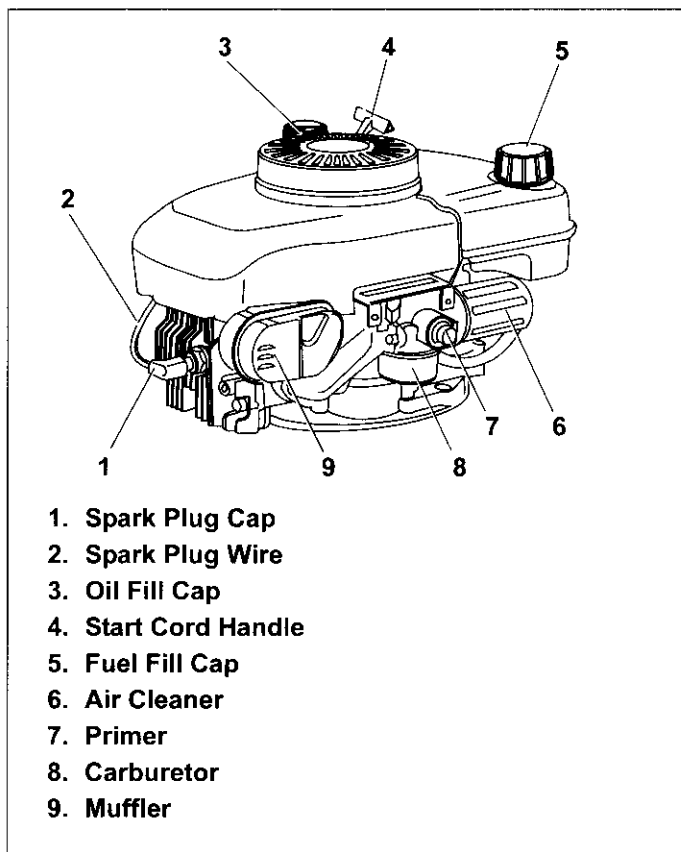

Figure 7. Engine With Oil Fill Dipstick
4. Unscrew and remove oil fill cap from oil filler tube. Note oil level. If oil reading on dipstick is below "ADD" mark, slowly add oil to reach "FULL" level. See Figure 7.
3. Clean area around fuel fill cap and remove fuel fill cap. See Figure 7.